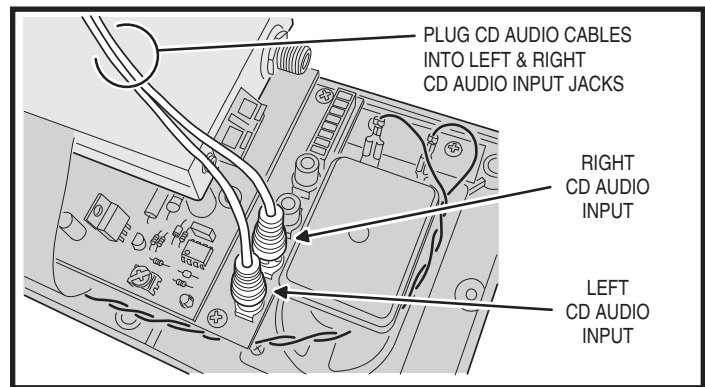

Figure 23. CD Input Jacks on Master Station
3. Insert the CD audio cable's BLACK RCA plug into the CD L jack on the dmc1 Master Station, then insert the cable's RED RCA plug into the CD R jack on the dmc1 Master Station (see Figure 23).